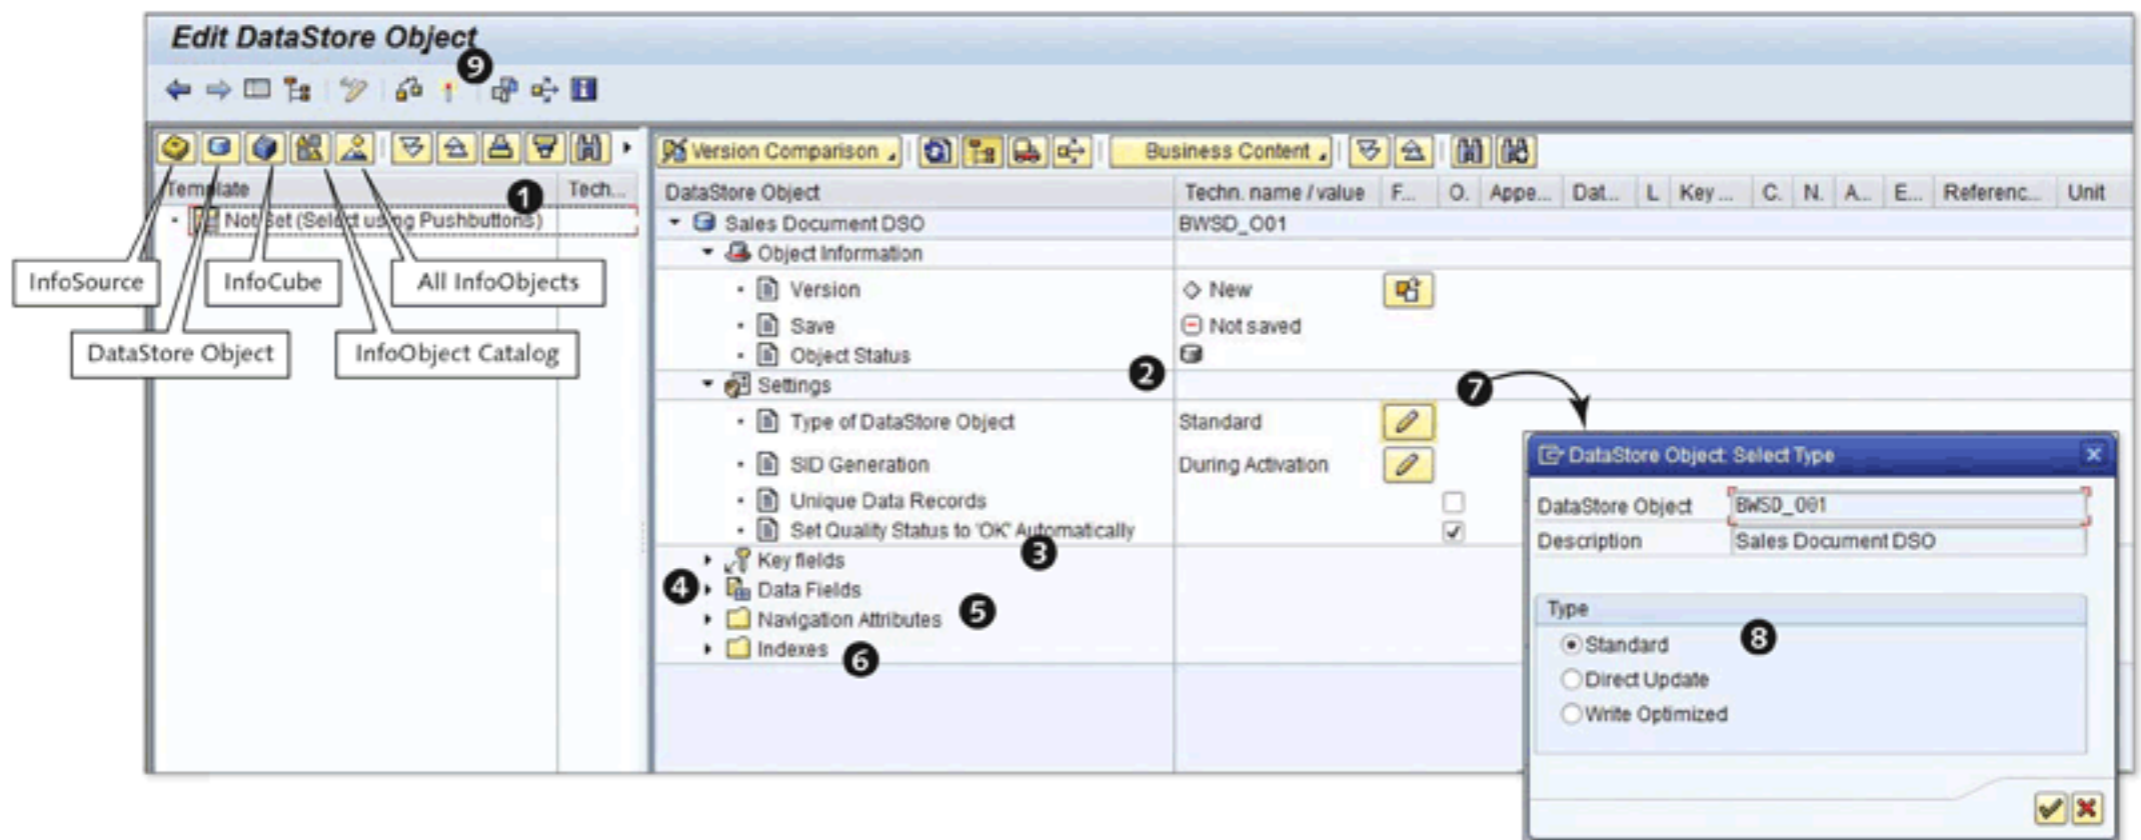
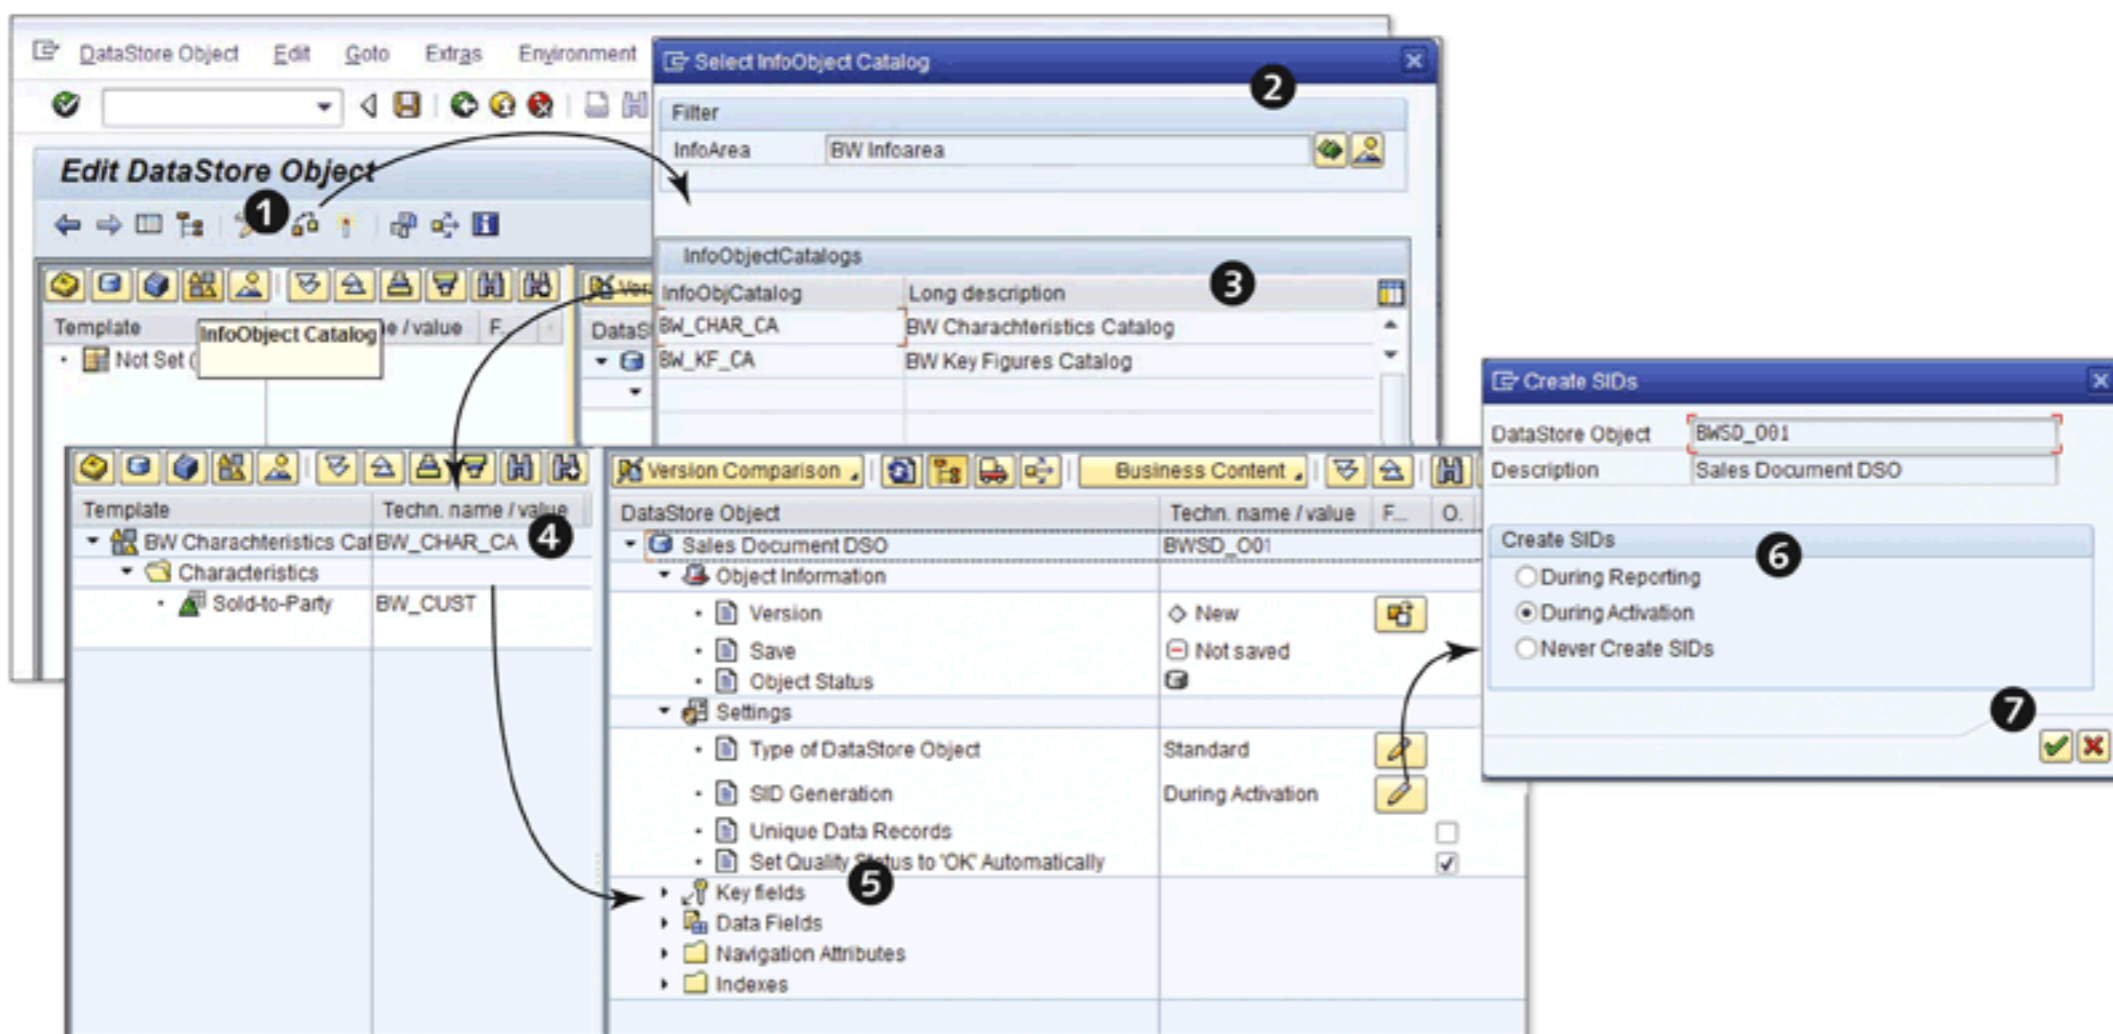

Figure 4.10 Key Settings in a DSO
Figure 4.11 Edit DSO: Using Templates to Include InfoObjects in a DSO
Click on the CREATE icon (📄) (❶). The resulting screen is shown in Figure 4.10.
The settings available when creating the DSO are shown in ❷ of Figure 4.10 and are explained in detail in Section 4.4.1. Different sections of a DSO definition are visible as key fields, data fields, navigation attributes, and the index, which are shown in ❸, ❹, ❺, and ❻ of Figure 4.10.
There are a few key settings for a DSO that play a very important role in its overall design and functionality. Figure 4.10 shows the screen with the settings we discuss in this section (❷). You can access this screen by selecting the DSO from the DWW and choosing CHANGE from the context menu.
The left pane of Figure 4.11 allows you to select InfoObjects using the template function (❶ of Figure 4.10). Several types of templates are available for selecting InfoObjects: INFOSOURCE, DATASTORE OBJECT, INFOCUBE, INFOOBJECT CATALOG, and ALL INFOOBJECTS.
In this example, we'll use the template called INFOOBJECT CATALOG. To do this, click on the INFOOBJECT CATALOG icon (🏠), as shown in ❶ of Figure 4.11. SAP NetWeaver BW displays a pop-up screen titled SELECT INFOOBJECT CATALOG. Click on the INFOAREA icon (📁) (❷). The InfoObject catalog attached to the selected InfoArea is listed (❸). Double-click on InfoObject catalog BW_CHAR_CA. The TEMPLATE area on the screen now shows all of the InfoObjects available under the selected InfoObject catalog (❹). You can select one or multiple InfoObjects by dragging and dropping over either key fields or data fields (❺). In the SETTINGS section, if you click on the CHANGE icon (✎) for SID GENERATION, a CREATE SIDS pop-up box with three options appears (❻). These options are: